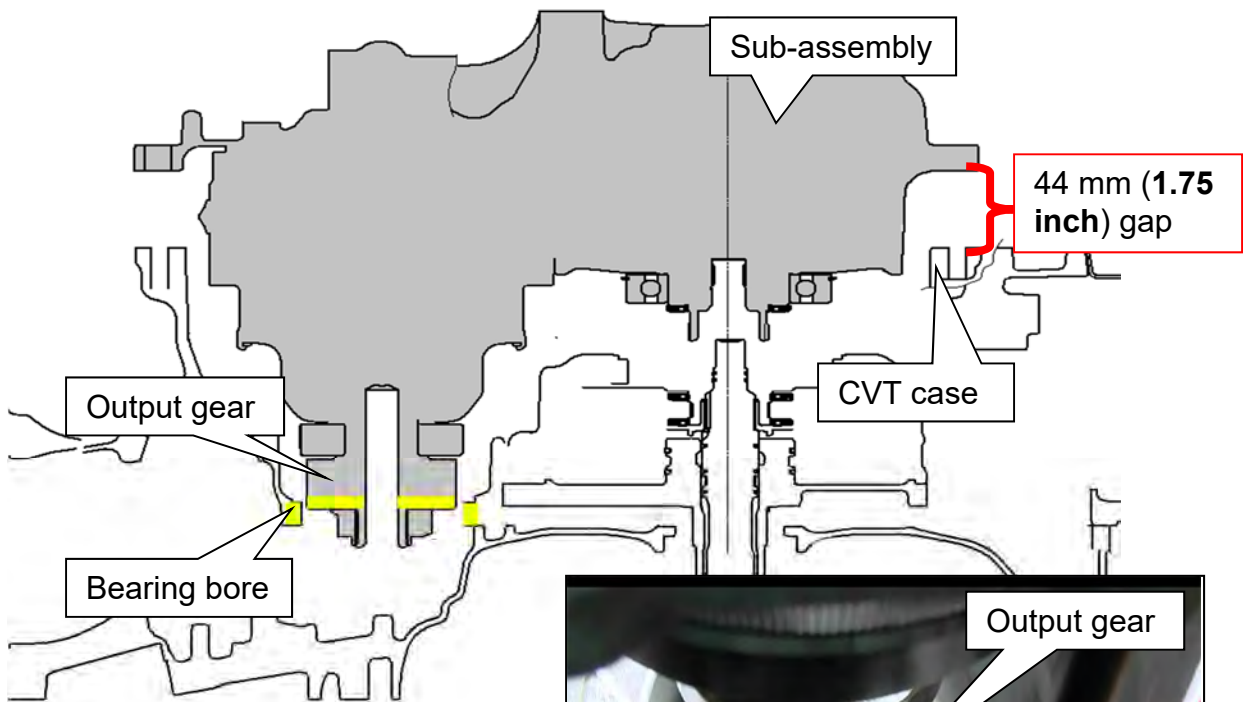

Figure 108
- If the sub-assembly will not lower farther than 44 mm (1.75 inches) the output gear did not clear the bearing bore (Figure 108).